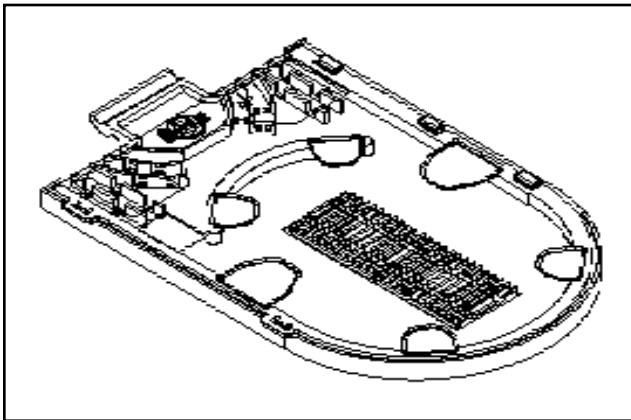

FIGURE 23 - COYOTE HI-COUNT SPLICE TRAY
12.01 The trays to be used in the COYOTE Hi-Count Splice Case are single fiber trays designed for single fusion heat shrink protected splice applications. These trays can accommodate up to 24 single fusion heat shrink protected splices. (Figure 23)